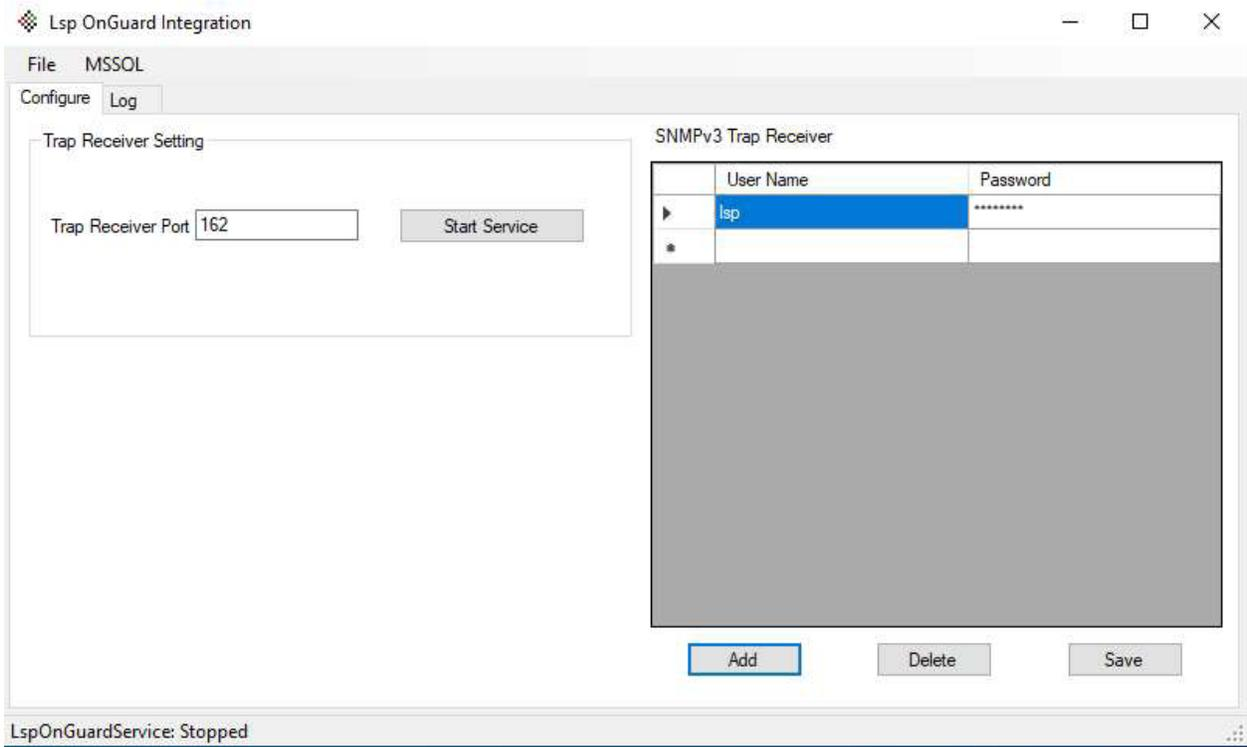

Figure 13
- 10. Enter the SNMP Trap Receiver port. This port number should match the port set in the NetLink devices. See Figure 13.